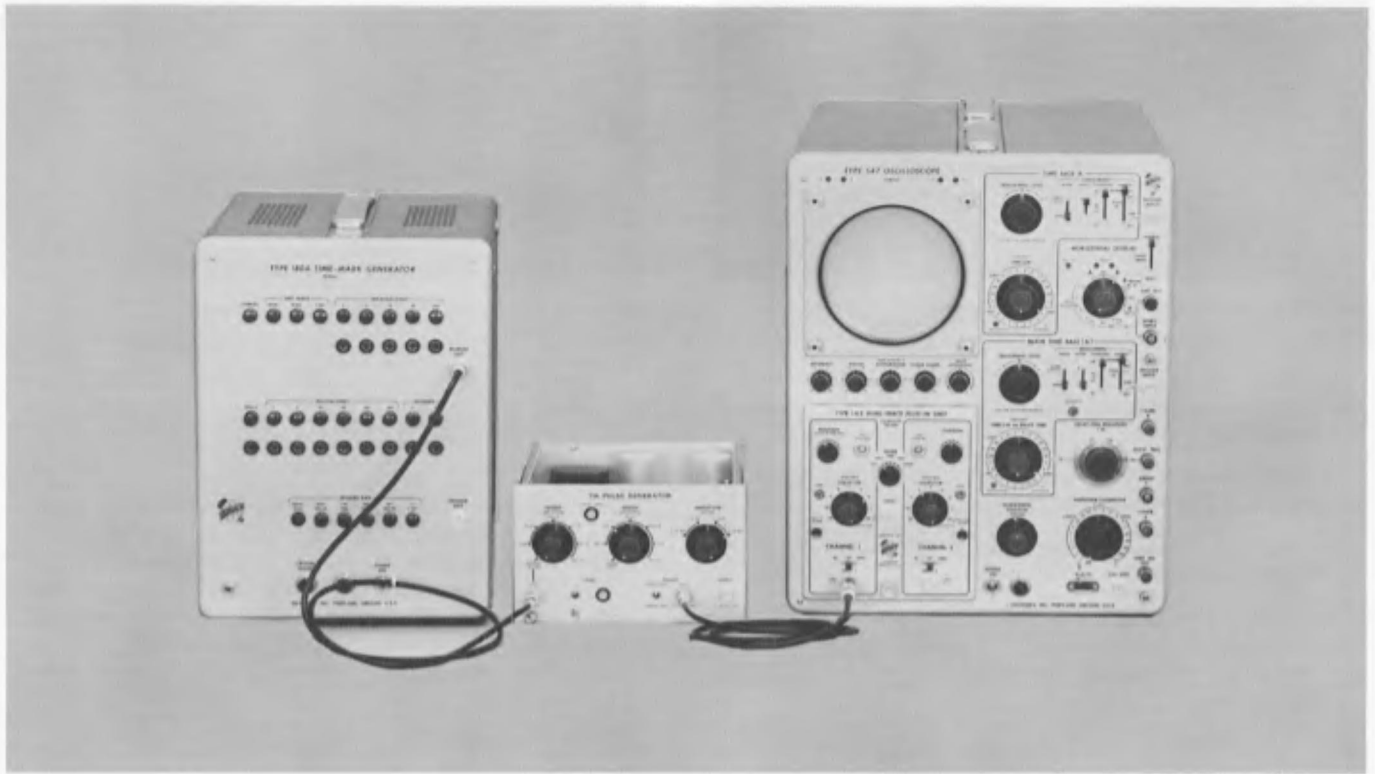

Fig. 4-17. Test setup for checking external triggering.
- Connect a 50Ω coax from the Type 114 TRIGGER OUTPUT connector to the Type 1A1 Channel 1 input (see Fig. 4-17). Set the Type 1A1 MODE switch to CH 1. Set the Type 1A1 Channel 1 VOLTS/CM switch to 1.
- Set the Type 547 TIME/CM (B) switch to $1 \mu\text{SEC}$ and adjust the TRIGGER LEVEL control for a stable display. Check for 1 pulse/cm of 3 volts amplitude ± 1 volt.